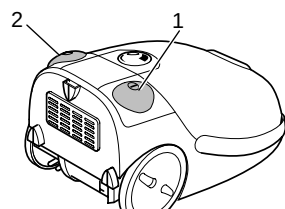

Fig. 10
1. Switch off the cylinder vacuum cleaner using the on/off switch (Fig. 10/1) and pull the plug out of the socket.
3. Press the cable retract button (Fig. 10/2) to pull in the power cable. Guide the last part with the plug by hand.